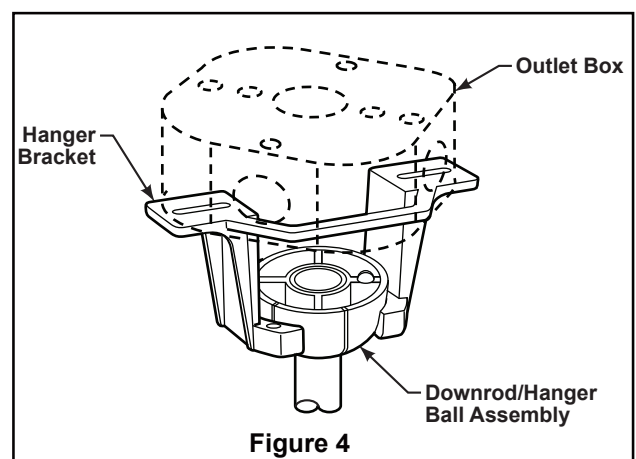

Figure 4
- 4. Slide downrod into the downrod support on top of the motor. Install the clevis pin by aligning the holes in the downrod support with holes in the downrod. Secure clevis pin with hairpin clip. Tighten the two set screws with nuts in the downrod support. (Figure 4)
2. Carefully lift the fan and seat the downrod/hanger ball assembly on the hanger bracket that was just attached to the outlet box. Be sure the groove in the ball is lined up with tab on the hanger bracket. (Figure 4)